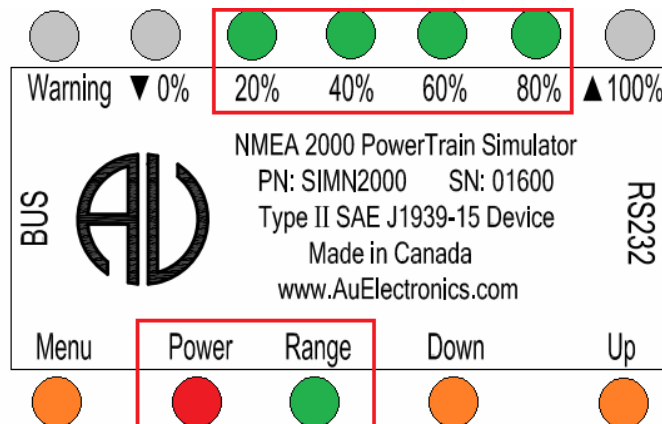

Figure 3-6 Power, Range, 20%, 40%, 60%, 80% LED on, indicating data range is from 81% to 99%
- If keep pressing **Up** button, the control step value will keep increasing. The 20%, 40%, 60%, and 80% LED will be on, as shown in Figure 3-6. It indicates the data range from 81% to 99%.